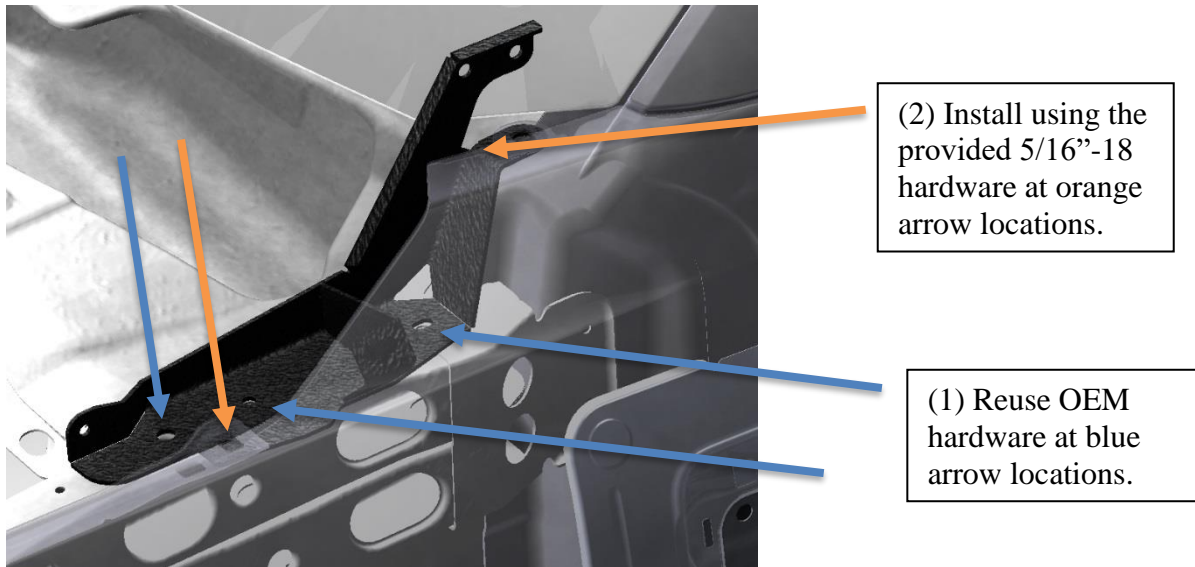

Fig 8
- Position the driver side bracket as pictured in **Fig 8**.
- Loosely install the three factory bolts as shown in **Fig 8** item (1).
- Install the outer two 5/16"-18 zinc bolt, zinc lock washer and zinc flat washer as shown in **Fig 8** item (2).